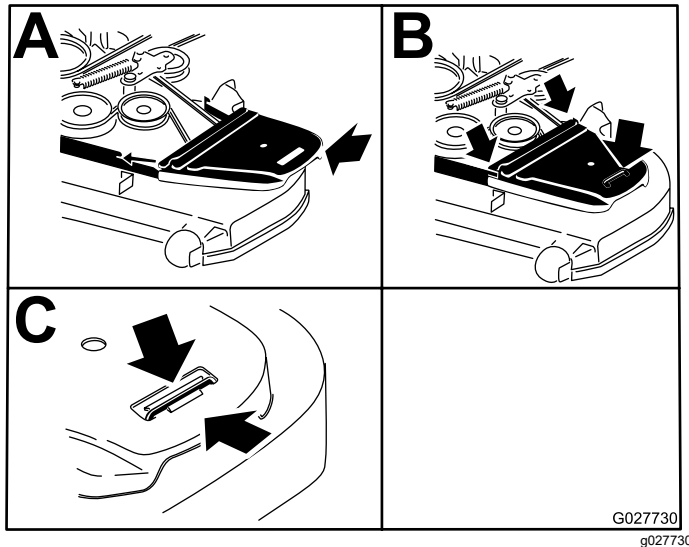

Figure 103
11. Install the belt covers (Figure 103).